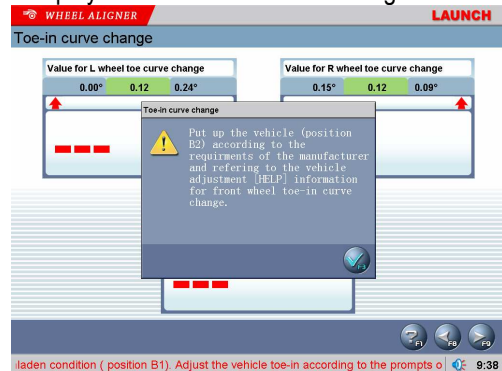

Fig.4.27
4. Put up the vehicle (to position B2) according to the requirements of the manufacturer. The screen display the interface as shown in Fig.4.27: